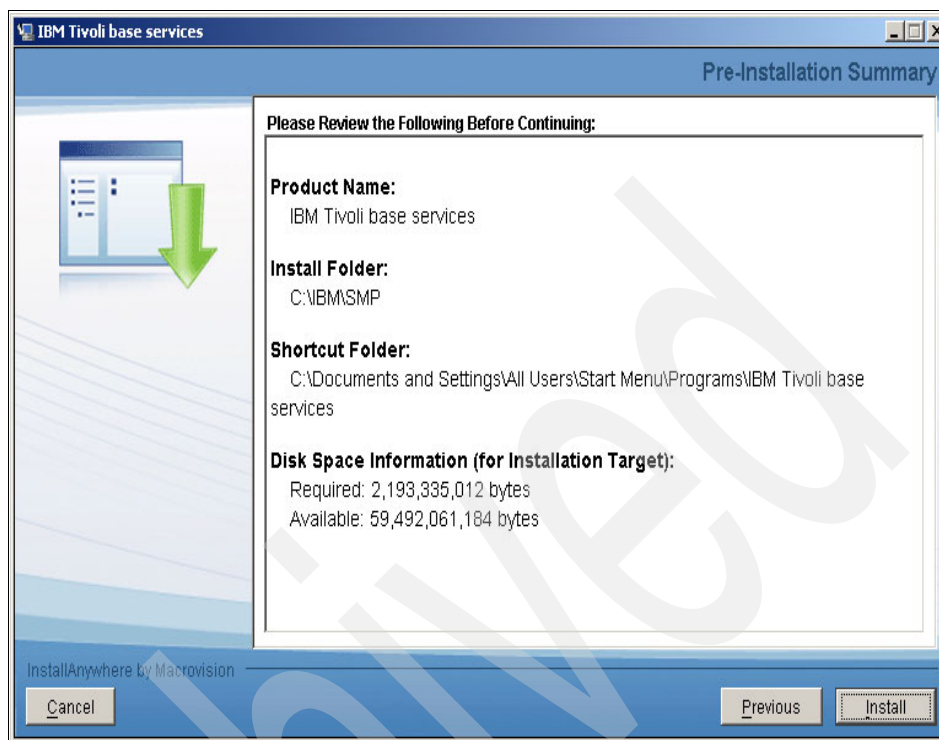

Figure 5-22 Pre-Installation Summary
17. From the Pre-Installation Summary panel (see Figure 5-22 on page 95), review the installation information, and then click **Install**. The installation task begins. Progress can be monitored by viewing messages displayed above the progress bar. Click **Next**.